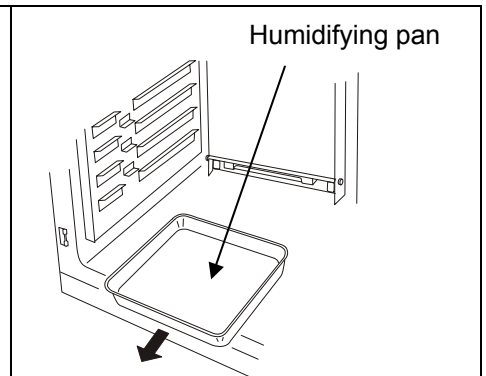

Fig. 3
4. Pull out the humidifying pan. (Fig. 3)